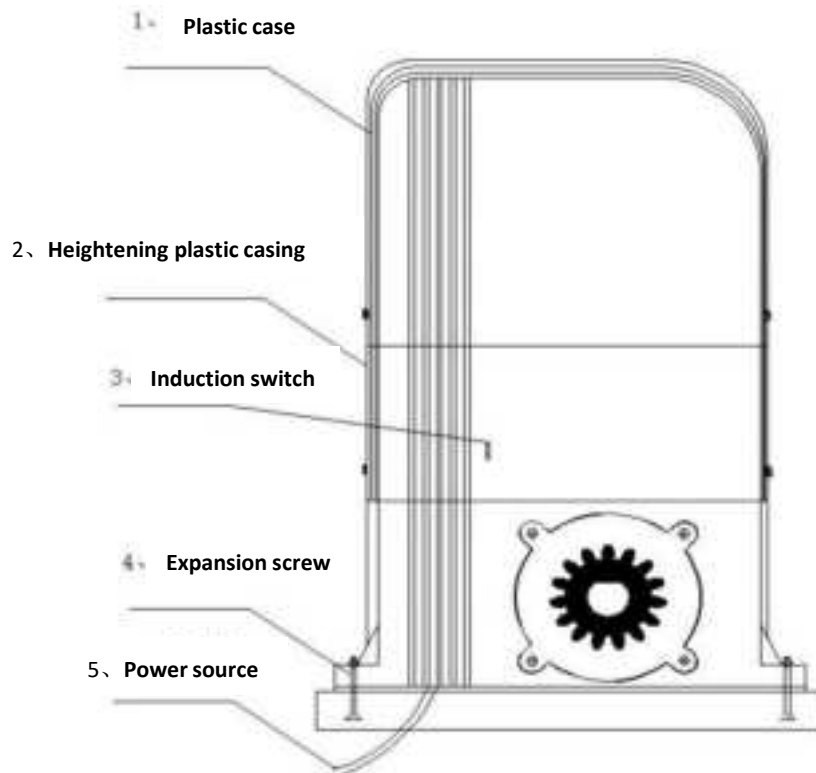
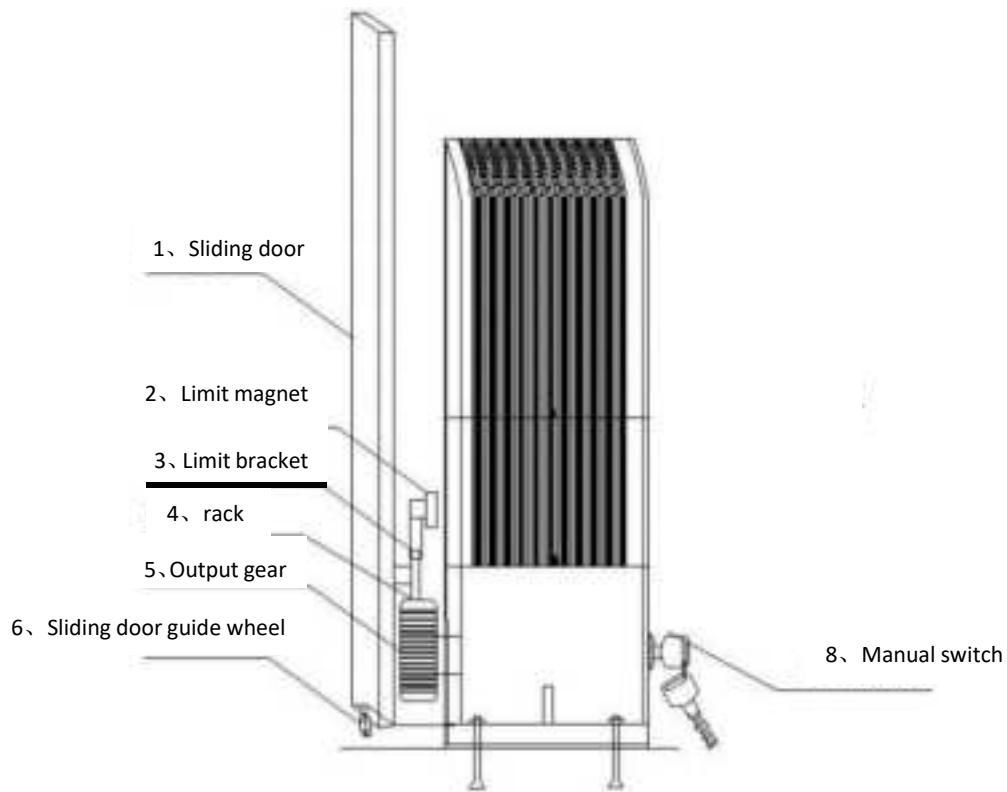
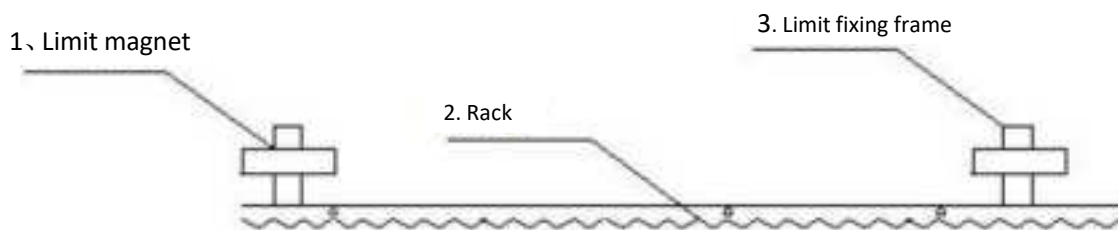

Figure 3
Figure 4
Figure 5
The basic installation of the door opening machine is shown in Figure 3, and the position relationship between the door opening machine and the translation door is shown in Figure 4. After the cement is solidified, place the door opener on the installation base plate. The installation base plate should be horizontal and adjusted to the appropriate position according to the direction shown in Figure 4. Then, the
(1) In the position where the output gear and rack can be reliably meshed, the cylindrical nut is welded in the appropriate position at the lower part of the translation door and then the rack is bolted on the round bolt nut.
(2) Adjust the position of the rack to ensure the engagement between the rack and the gear gap, and the engagement gap should be maintained at 1 mm.
(3) Install the magnetic switch as shown in Figure 4 and Figure 5. The main engine is equipped with a magnetic induction (or spring) switch. Control the correct position for opening and closing doors. Use the special key to open the clutch control compartment, and then use the clutch handle to unload the clutch of the door opener (make the handle straight to 90 degrees); Push the translation door to the appropriate limit position at both ends manually, and preliminarily fix the assembled translation door limiter on the rack at both ends; (As shown in Figure 5) Please refer to the circuit board manual for details of the circuit installation and debugging.